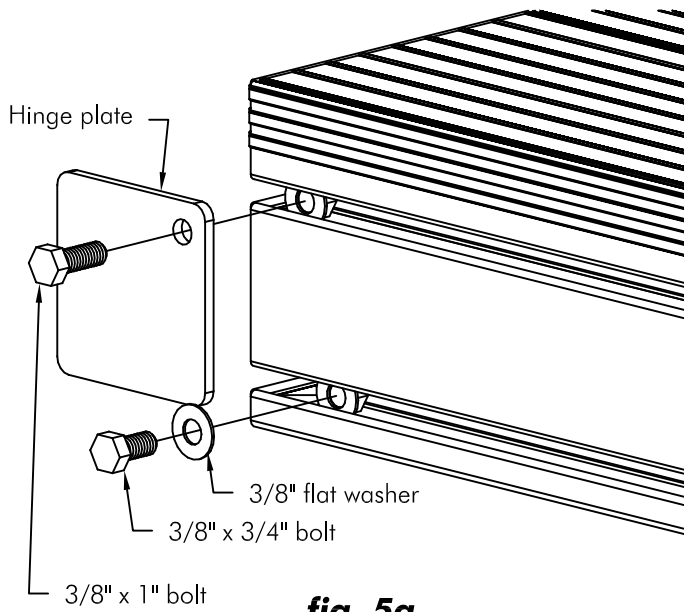

fig. 5a
2. Insert a 3/8" nut and flat washer into the lower side track and slide to end. Thread a 3/8" x 3/4" bolt and flat washer into nut as shown in fig. 5a and 5b. This will act as a stop for the plate. Torque to 40 ft/lbs.